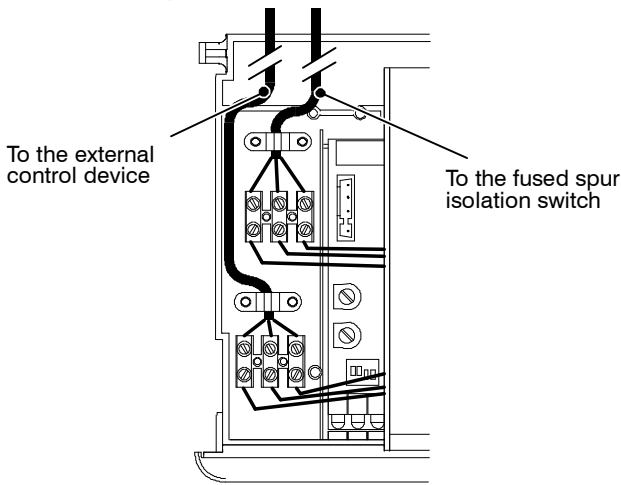

fig. 6.15
- 9 Route the electrical supply flexible cord and the external control flexible cord as illustrated in fig. 6.15.